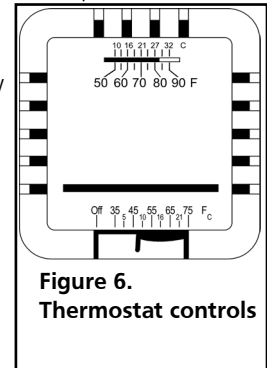

Figure 6.
- Set the thermostat to the desired temperature setting. See Figure 6.
- After ignition the spark electrode/flame sensor monitors the pilot flame. If a pilot flame is not recognized within 15 seconds the control will immediately try to reignite. If the pilot flame is not established after (3) ignition sequences the heater will lockout. The control can be reset by briefly interrupting the power source then repeat above steps.